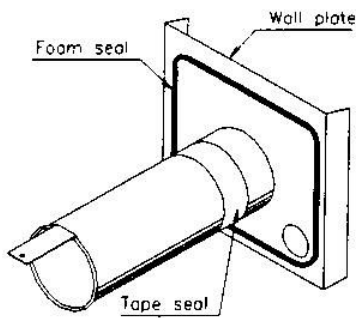

Fig. 8
10. Insert the plain end of the connecting duct in the wall plate spigot with the gather fixing strap uppermost. Seal the joint with the tape provided (Fig. 8).